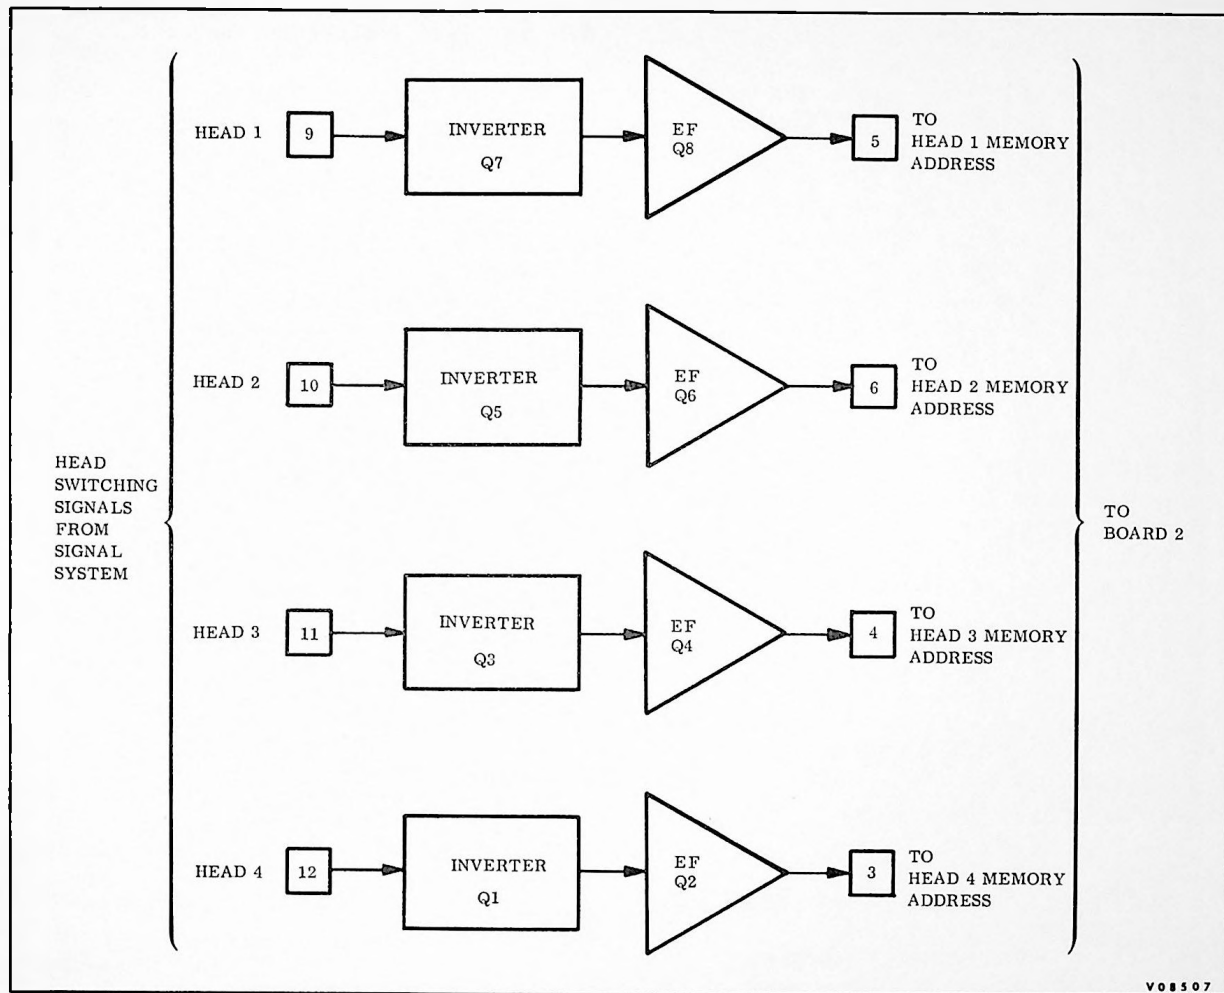

Figure 4.2-3. Head Decoder Simplified Block Diagram
4.2-27 HEAD DECODER (PART OF BOARD 6). As indicated in Figure 4.2-3, signals are applied from the signal system to switch the heads in 1-4-2-3 sequence. Each of the four signals is applied to an